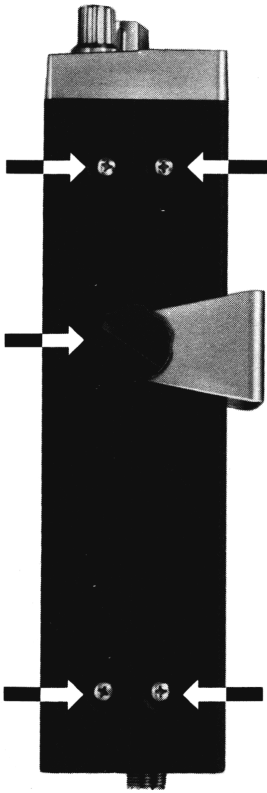

Figure 1
1. To remove Top & Bottom Cover: (Figure 1)